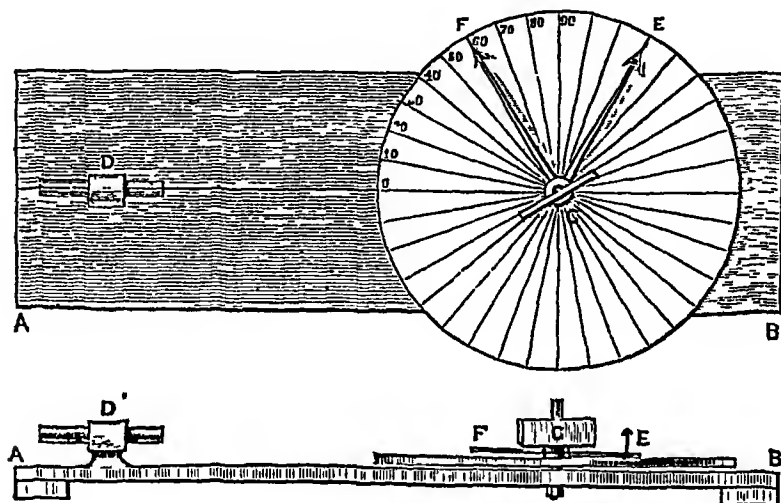

FIG 67
**A rotating mirror**—AB (fig 67) is a deal board  $12'' \times 4''$ . A line CD is drawn upon it parallel to the sides. A cork is glued at A, and a piece of glass tubing  $\frac{1}{2}''$  diameter, D, is passed through the cork so as to be parallel to the line, two threads are stretched vertically and horizontally across the end nearer to the mirror, so as to cross in the centre. A movable divided circle made of cardboard  $6''$  radius is centred on the line. Two movable arms, E and F, of thin rod are movable on the same centre. To F is attached a piece of looking-glass C so that it stands vertically with its reflecting face at the centre. F is the normal to the glass. On E, at radius distance, fix a pin with a bright head. Place the mirror in any position, move the circle so that F is at  $0^\circ$ . Move the arm until the image of the pin head seen by looking through the tube is at the intersection of the threads. As before, the angle FCE equals the angle FCD.